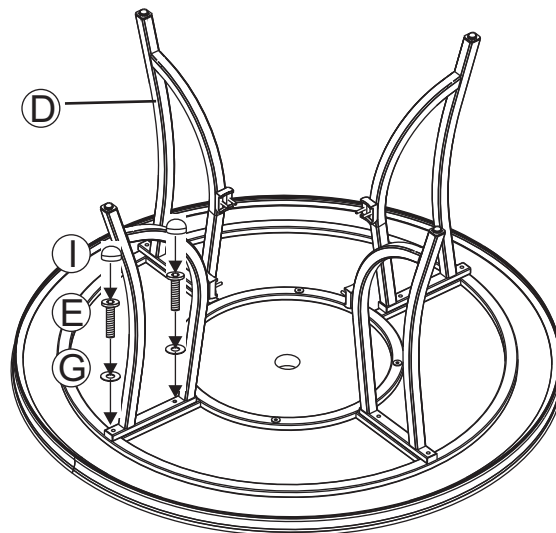

Figure 2
- 2 Attach a table leg (D) to the top connector bracket by using two bolts and $\text{Ø}6.5 \times 1.0$ mm washers as shown in **Figure 2**. **Hand tighten 2-3 turns only.** Repeat for the other legs.
- 3 Attach a table leg to the leg connector bracket by carefully guiding the bolts already in place on the table legs (each leg has two bolts) through the holes in the leg connector bracket. Add a $\text{Ø}6.5 \times 1.0$ mm washer and a nut to the end of each bolt as shown in the **Figure 2**. **Hand tighten 2-3 turns only.** Repeat on the other three legs.
- 1** **Important: We recommend 2 people work together to assemble the chair.** Note the arrow labels on the "U" bar and the rocker assembly. Also note the horseshoe shape of the rocker plate. Point the open end of the horseshoe away from you. The arrows on the rocker assembly should be pointing towards you. Set the chair frame on the rocker assembly with front of the seat facing you and the arrows on the "U" bar pointing towards you as shown in **Figure 2**. This is very important for a safe, balanced rocking motion. **If chair frame has been properly positioned on the rocker assembly, all arrows on the "U" bar and rocker assembly will be pointing in the same direction.**